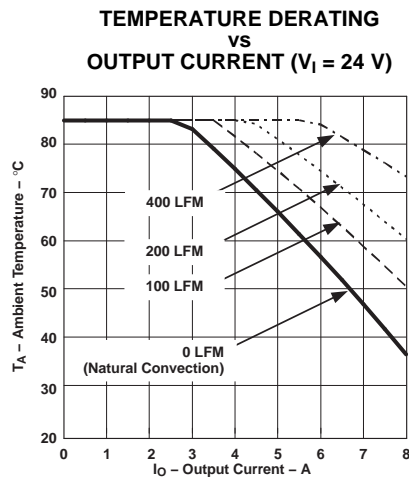
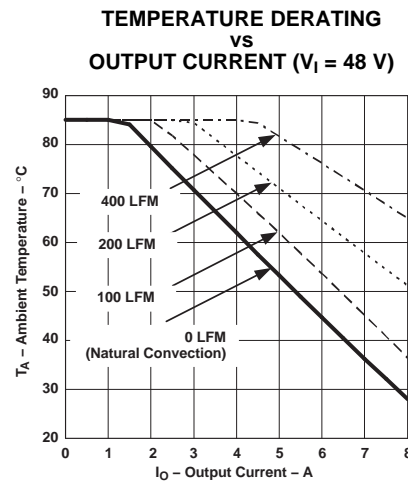

Figure 9.
Figure 10.
- (4) The temperature derating curves represent operating conditions at which internal components are at or below manufacturer's maximum rated operating temperature. Derating limits apply to modules soldered directly to a 100–mm x 100–mm, double-sided PCB with 2 oz. copper. Applies to Figure 9, and Figure 10.